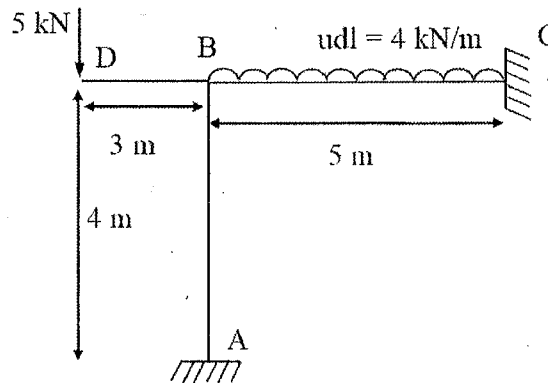

Figure Q1
- (i) Analyze the frame shown in **Figure Q1** using the **Moment Distribution method** and find the moments at *A, B, and C* joints. (Flexural rigidity of *AB* is  $2EI$  and that of *BC* and *BD* is  $EI$ .)